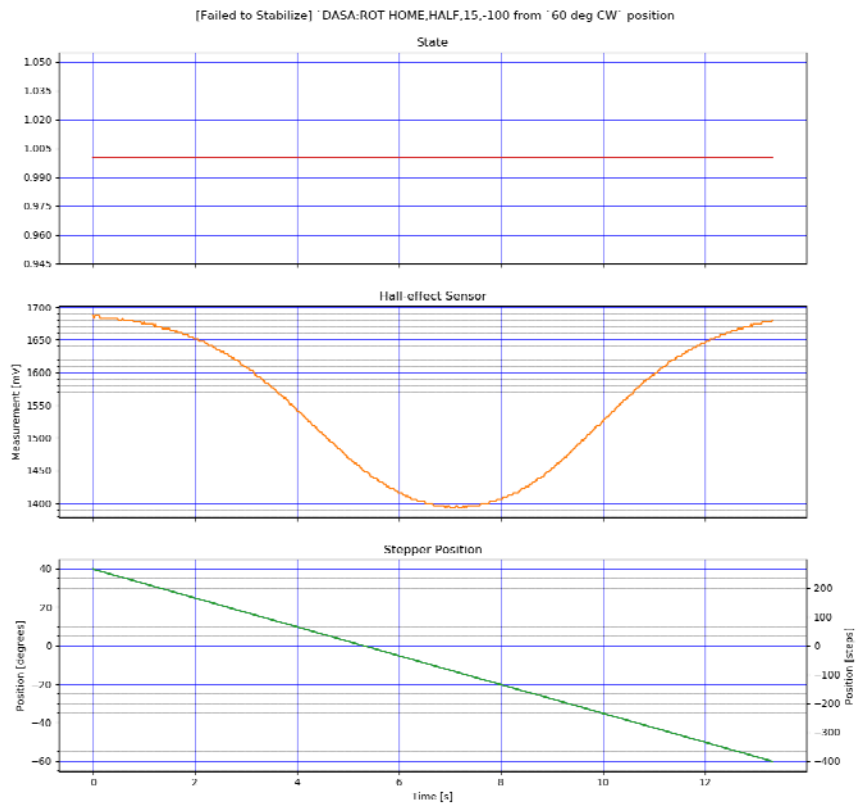

**Figure 5: Homing action from home**
**Tip** From Figure 5, we see that a stable HES min/max is found around 70° from home. Hence, a rotational limit of 1000 steps or 150° in either direction is usually adequate for finding home, regardless of the initial position.